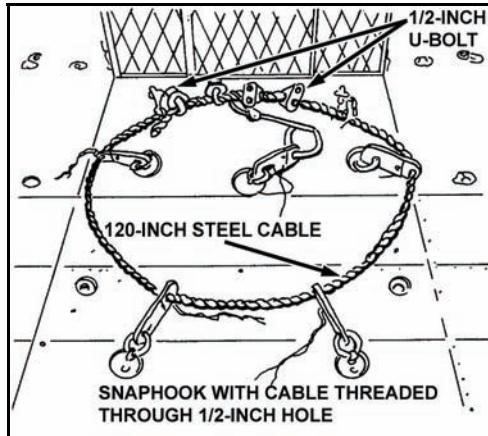
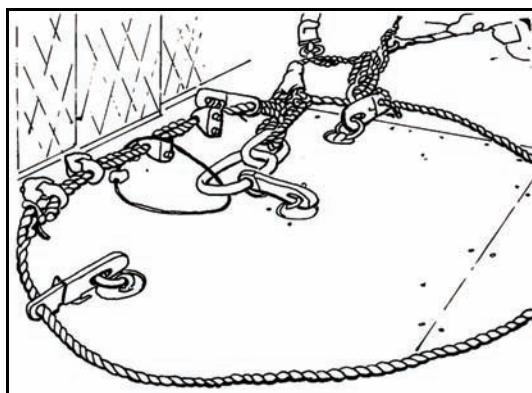

Figure 3-2. Donut ring attached to the floor of the helicopter.
Figure 3-3. Donut ring and rappel rope connection in a helicopter.
- (1) Removes all seats.
- (2) Locks the doors in the open position. If no locks are present, removes doors. Also removes small cargo doors.
- (3) Pads and tapes all sharp edges on the floor, door ledge, and all protrusions on the skids. Ensures each door ledge has a scuff pad to protect the rope from contacting the metal door ledge.
- (4) Secures the donut ring to the center of the floor of the helicopter. The donut ring has six snaphooks numbered clockwise, with 12 o'clock being toward the front of the helicopter. The rappel master positions the clamps of the donut ring toward the aft end of the helicopter. He ensures the front two snaplinks and rear two snaplinks are facing outside of the donut ring and hooks them to the tie-down ring with the snaphook facing down. He ensures the center two snaphooks face into the donut ring and are connected to the floor tie-down ring with the gate facing down (Figure 3-2). He attaches the free-floating safety ring to the center floor tie-down ring using a seventh snaphook.
3-24. This primary (or No.1) anchor point for the rappelling ropes is constructed from a 1/2-inch steel cable with a steel wire core. The cable is 120-inches long, consists of 6 strands (18 wires per strand), and has a tensile strength of 21,000 pounds (Figure 3-2). The completed donut ring has a tensile strength of 3,000 pounds. Figure 3-3 shows the donut ring and rappel rope connection in a helicopter.